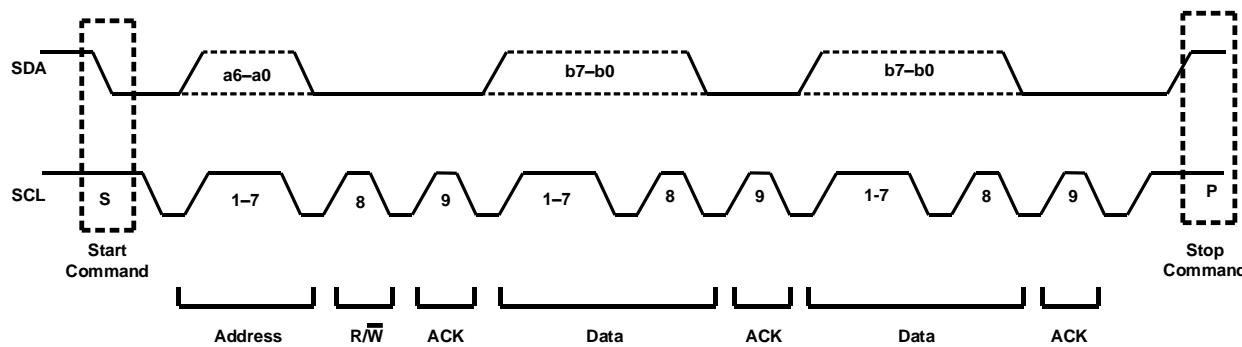

Figure 11: Data Transfer across the I²C
The start and stop commands are signaled by the master device, which signifies the beginning and end of the I²C transfer. A start (S) command is defined as the SDA signal transitioning from high to low while SCL is high. A stop (P) command is defined as the SDA signal transitioning from low to high while SCL is high (see Figure 11).